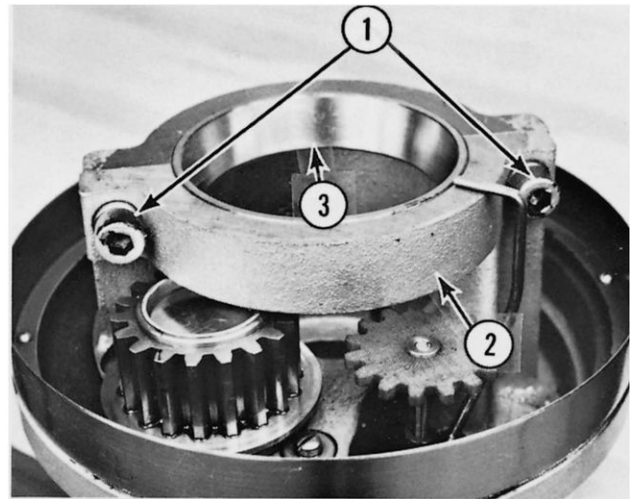

Fig. 10-6
A. With the planetary removed from the mixer, remove the two socket head screws (1, Fig. 10-6), and the bearing cap (2, Fig. 10-6) and bearing cup (3, Fig. 10-6).